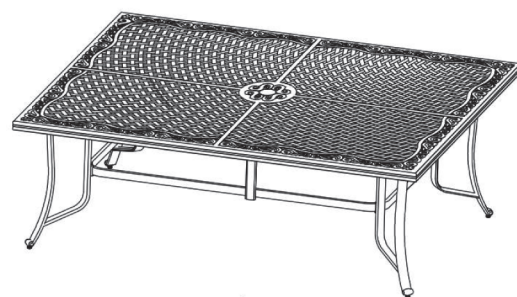

Figure 5
Step 5. Verify all bolts are securely tightened before use and turn your table right side up (See Figure 5). Your table is now ready to use.